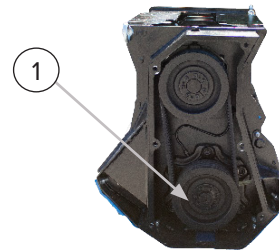

Figure 11
2. Apply the reflective tape to the rotor pulley (Item 1) [Figure 11].